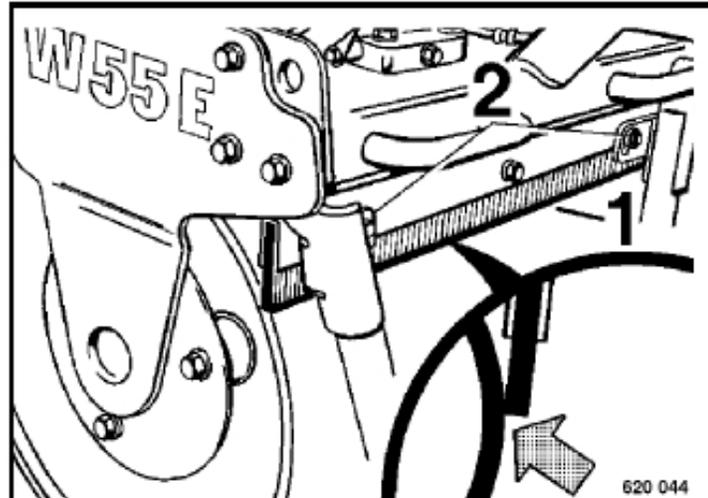

Fig. 56
- | Loosen the fastening screws 2 (Fig. 56).
- | Adjust the scrapers (1) until they touch the drum lightly (slight bending of the plastic insert).